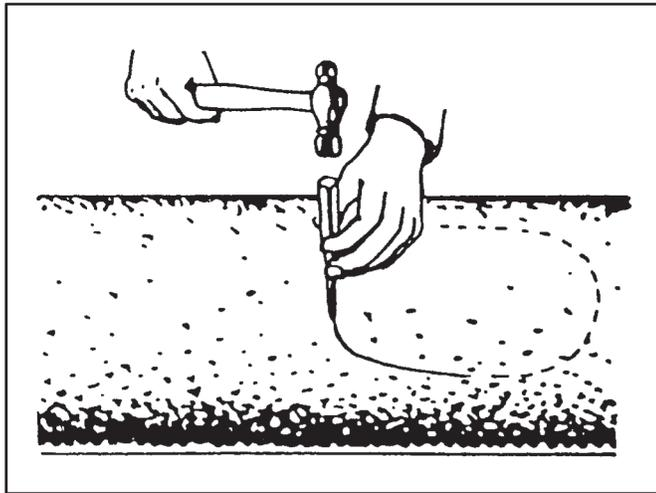

Figure 1-6. Cutting a hole in the main sewer
- Step 3.** Make the cut on this line with a small, cold chisel and an 8-ounce ball peen hammer, as shown in figure 1-6. Use light blows to prevent damage to the main sewer.